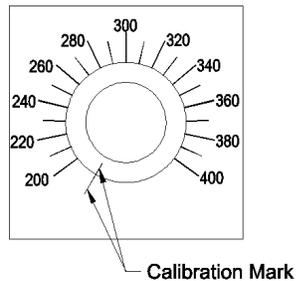

Fig. 1
1. Calibrate by aligning the line on the control knob with the calibration line on the scale plate (See Fig. 1).